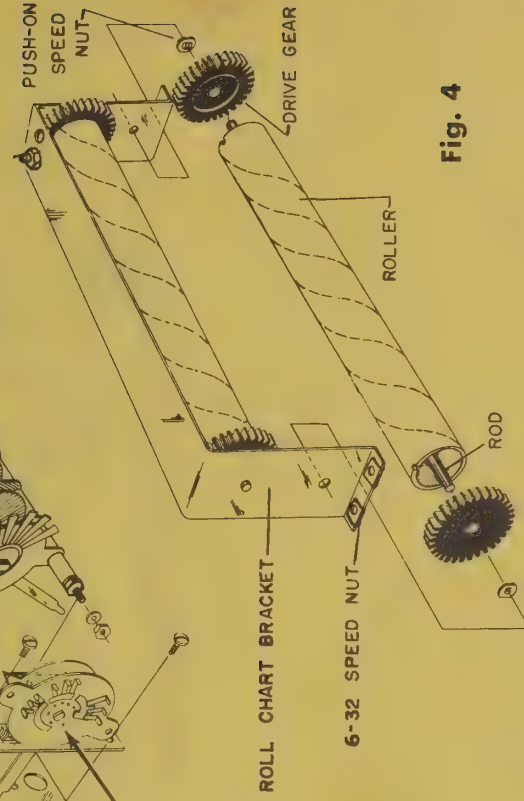

Fig. 4
8. Fig. 4. Attach four #6-32 speed nuts to the roll chart bracket as shown. Note that this type of speed nut has one flat side; this side is placed on the bracket so that it faces the mating flat surface (underside of the panel, in this case). The #6-32 speed-nuts are about the same physical size as the #8-32, but accommodate a smaller diameter screw.
9. Fig. 4. Attach the roll chart damper (small U-shaped phosphor-bronze spring) to the roll chart bracket, as shown. Use one #4-40 screw, one #4 lockwasher, and one #4-40 hex nut. The screw can be placed in either of the two holes in the bracket; the other hole accommodates the locating spur on the damper.
10. Fig. 4. Make up two roller assemblies, as shown. Use one roller, (be certain to remove the paper roll chart from one of the rollers) one rod, two drive gears, and two small push-on speed nuts for each. The rod should protrude equally from both ends.
11. Fig. 4. Insert the two roller assemblies into the bracket so that the drive gears mesh on each end.